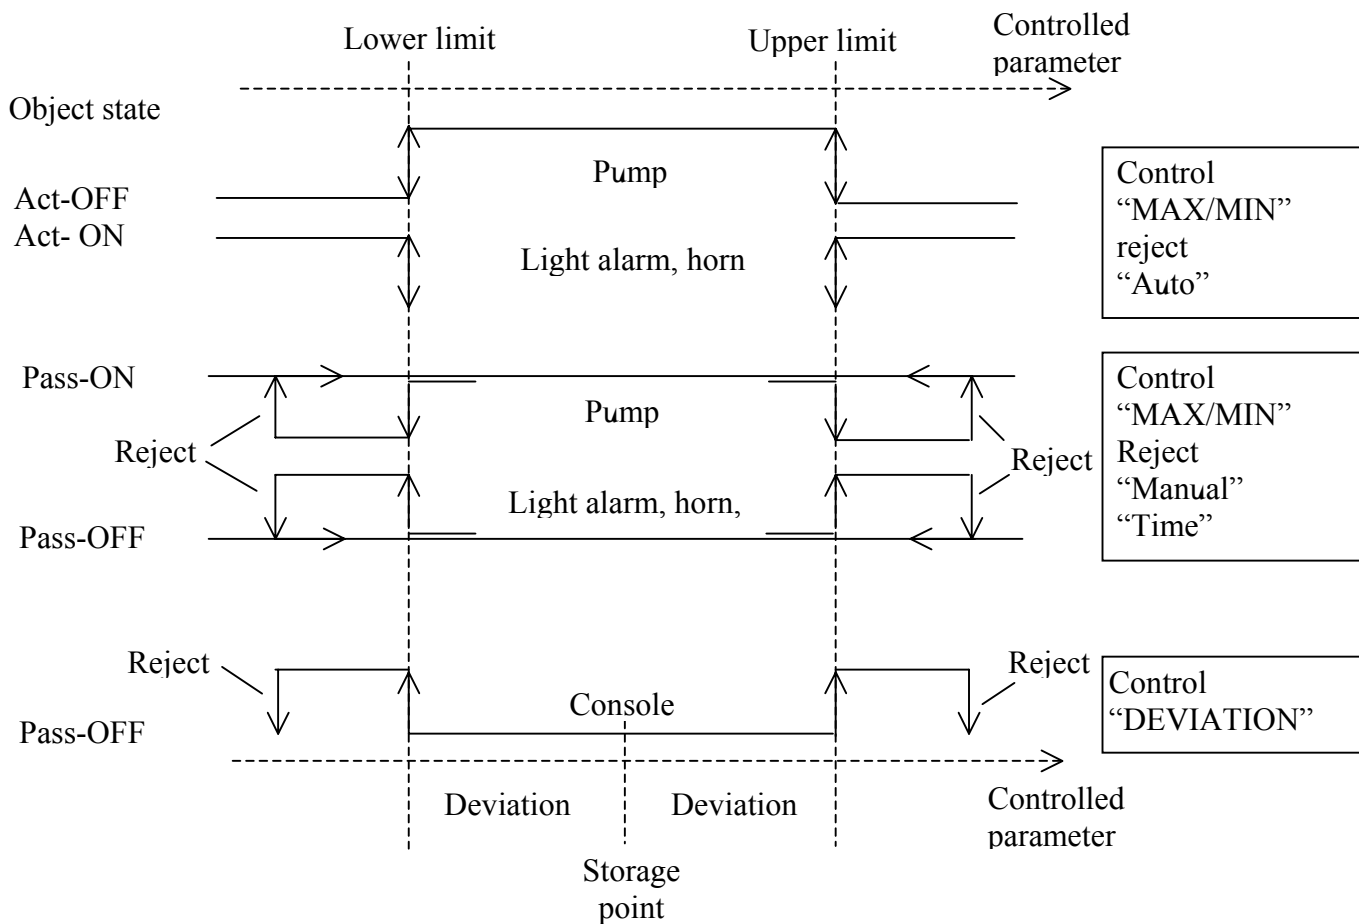

Figure 8.1
- b) “Pump” - CM channel control with a negative diagram (see figure 8.1);
The control algorithm of the measured parameter and alarm objects are characterized by a control channel. The alarm scheme of the control channel may contain up to five objects. The objects content is optional. Each alarm object has an individual setting of "standard" and "alarm" scales of the controlled parameter values. The cyclograms of the channels operation are shown at figure 8.1.